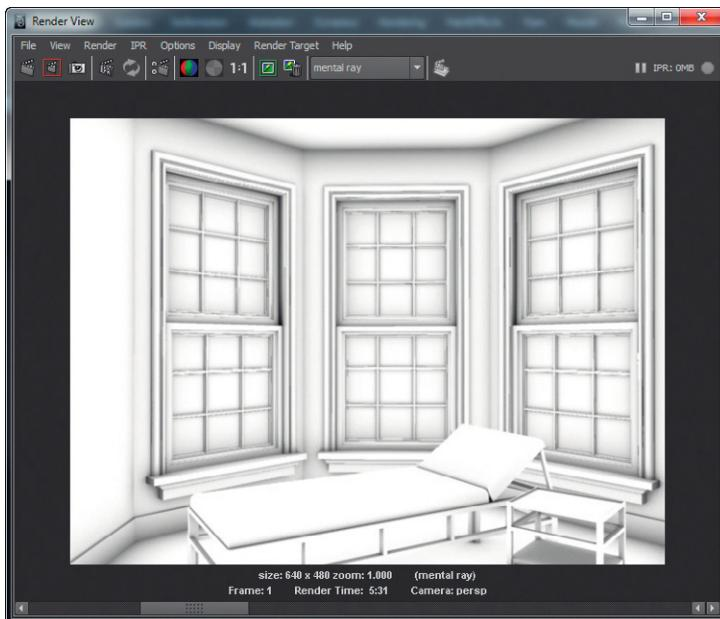

FIG. 6.19 Rendering results of the surface shader using AO.
Step 44: Render. To do this, choose Rendering|Render > Render Current Frame. The Render View window will open, and Maya and your computer will chug away to draw an image that finally will look similar to Fig. 6.19.